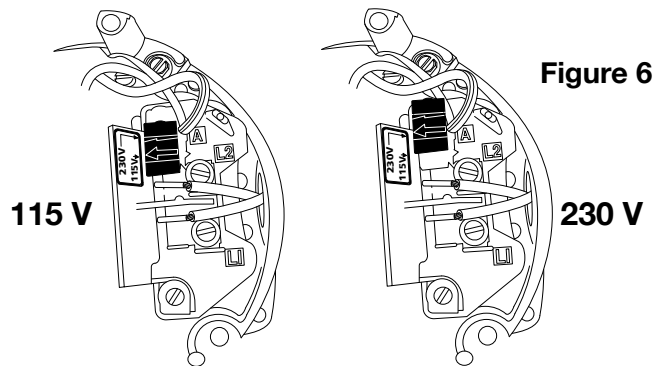

Figure 6
**NOTE:** To change the motor voltage (Figure 6) unplug the dual voltage connector on the motor and reconnect it in the position required to match the available electrical system. The motor can be set for 115 Volts or 230 Volts, except for 2 hp models which are 230 Volts only. The voltage setting of the motor can be determined by looking at the alignment of the arrow on the plug and the arrow on the motor terminal board (located under the motor’s end cover). Any questions as to which voltage setting is required for proper motor and pump operation in your system should be directed to an electrical professional. The factory preset is 230 Volts.